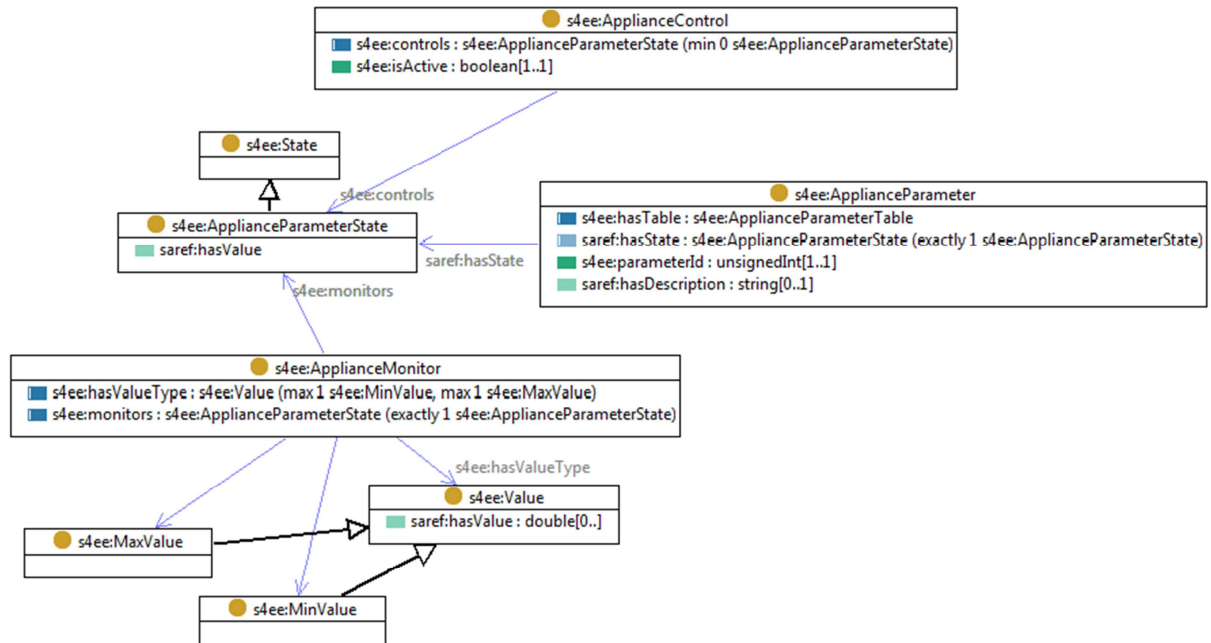

Figure 12 – The s4ee:ApplianceMonitor and s4ee:ApplianceControl classes and their properties
- It has a list of zero or more measurements that represent the actual parameter values for the appliance (`s4ee:ApplianceMonitor` class in Figure 12). These measurements can be sent by the appliance automatically as a status notification, or after a specific request from the CEM. The notification contains the information related to the current state of the appliance, i.e., parameter ID, its current value and, optionally, the maximum and minimum values that the parameter can assume.
- It has a list of zero or more control actions (`s4ee:ApplianceControl` class in Figure 12), such as command actuation or the setting of working modes and parameters, to control zero or more states of the appliance (`s4ee:ApplianceParameterState` class). The `s4ee:ApplianceControl` class also has a boolean property to specify whether the controls under consideration are active or not (`s4ee:isActive` property).